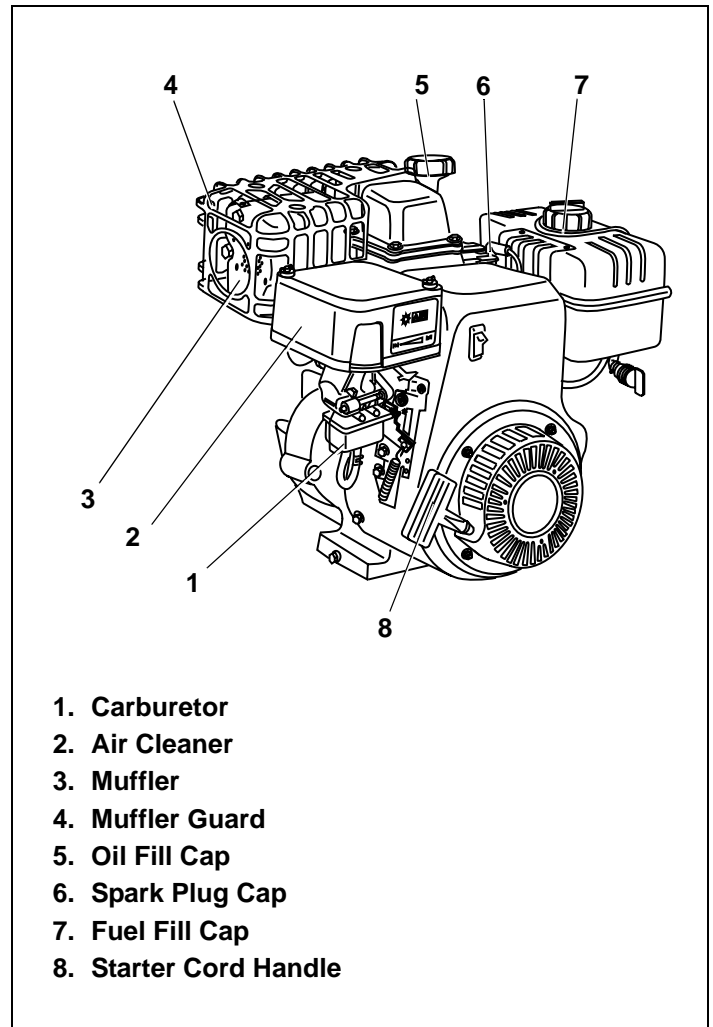

Figure 8. Engine Components
2. Unscrew oil fill cap/dipstick from oil filler tube and wipe dipstick clean. See Figure 8.
3. Clean area around fuel fill cap and remove fuel fill cap. See Figure 8 on page 5. Afterward, continue reading instructions below.